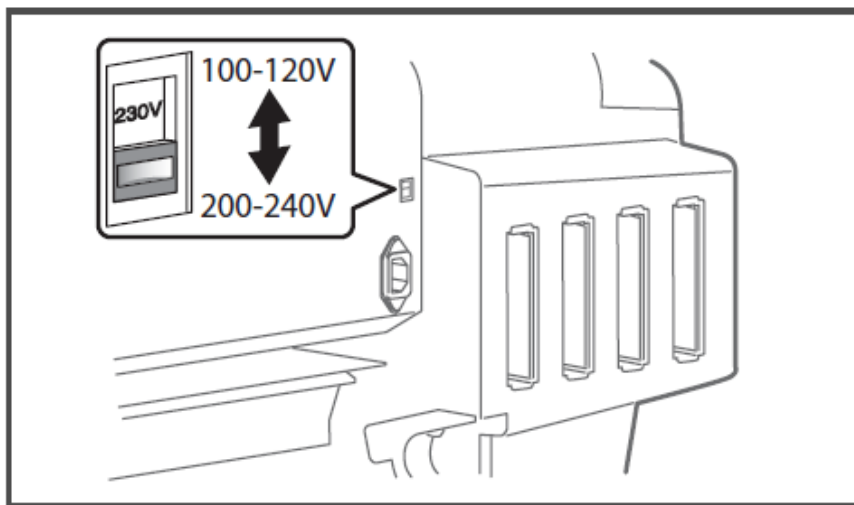

Figure 22
3. Units with serial numbers equal or greater than 1E1003000 have an auto switching input and can be connected to AC mains with voltage ranges of 100V to 240V. The power supply frequency is either 50Hz +/- 1 Hz or 60Hz +/-1Hz. For Units with serial numbers less than 1E1U003000, set the voltage selector switch to the voltage of the region where you are using the product. See figure 22.